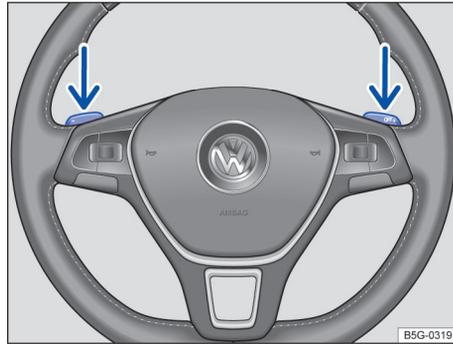

Fig. 103 Steering wheel with Tiptronic shift paddles (if equipped).
- The paddles → fig. 103 (arrows) work when the selector lever is in the Tiptronic position or when the selector lever is in Drive or Sport Drive (D/S). You do not have to move the selector lever over to the right into the Tiptronic position.